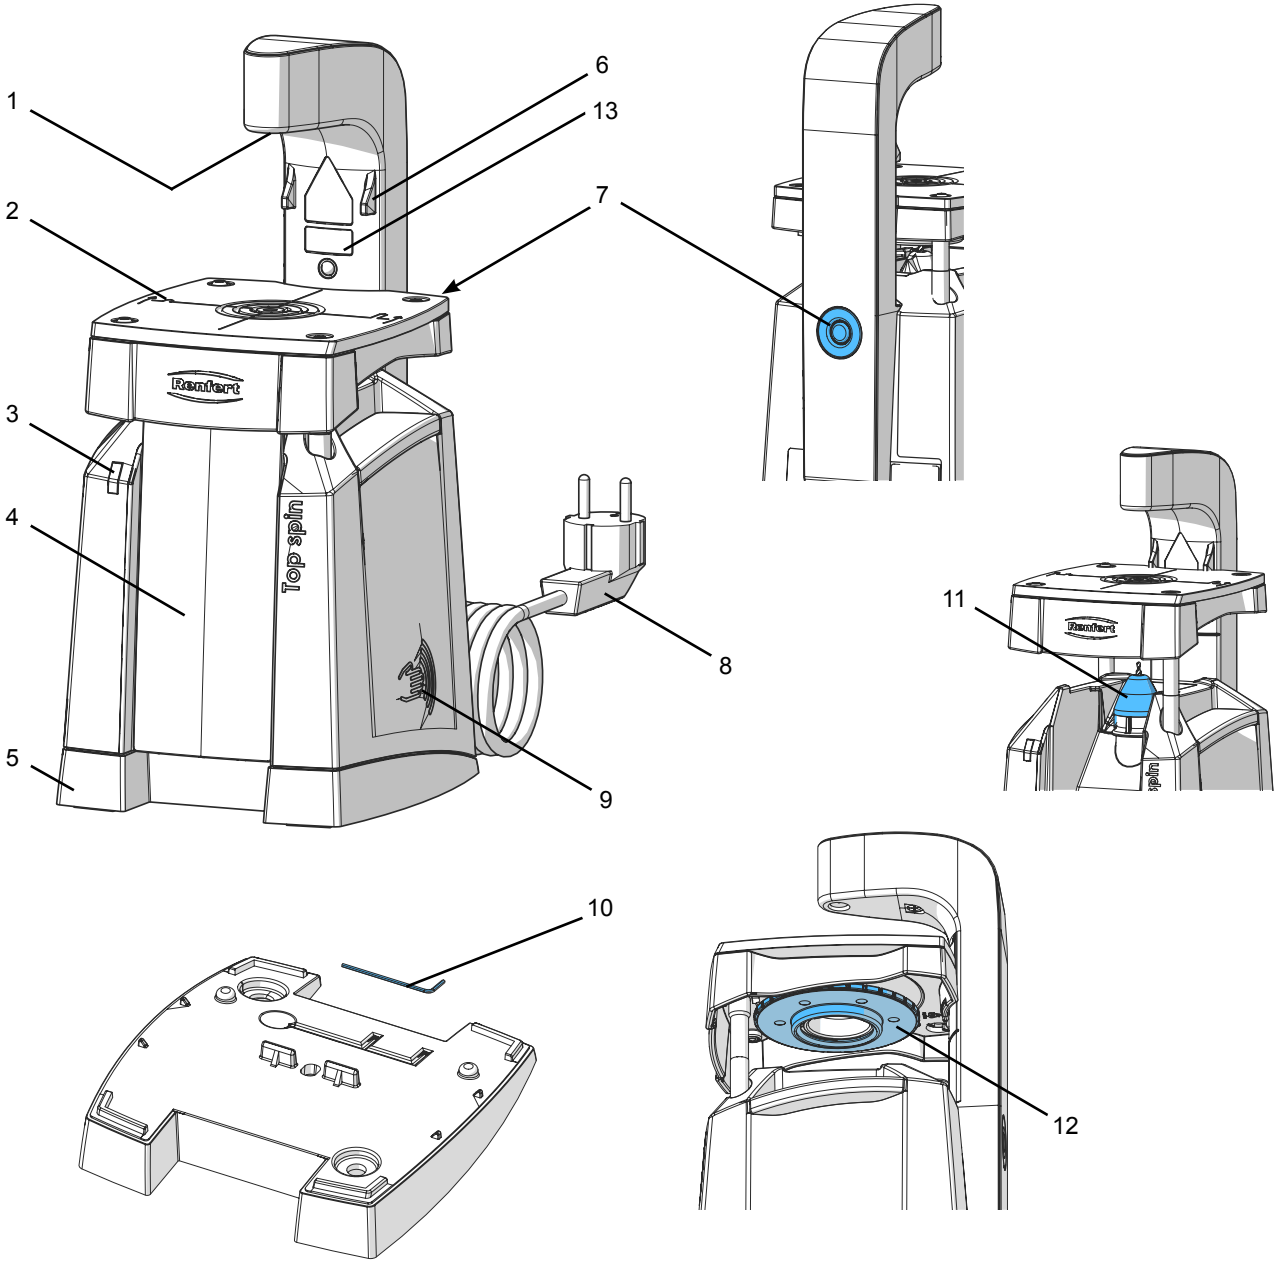

Fig. 1
- ⇒ Remove the laser warning label in your language from the sticker set and stick over the present warning label (13, Fig. 1).
⇒ Place the dental arch onto the drilling table (2, Fig. 1) and align the target laser (1, Fig. 1).